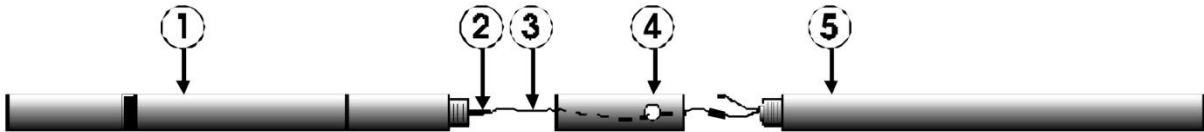

FIGURE 1A – NEOT-TBPTOOL STRING MAKE-UP - EXPLOSIVE SETTING MECHANISM
3. Make up the NeoT-TBP with a CCL. Refer to Figure 1A for tool string make-up.